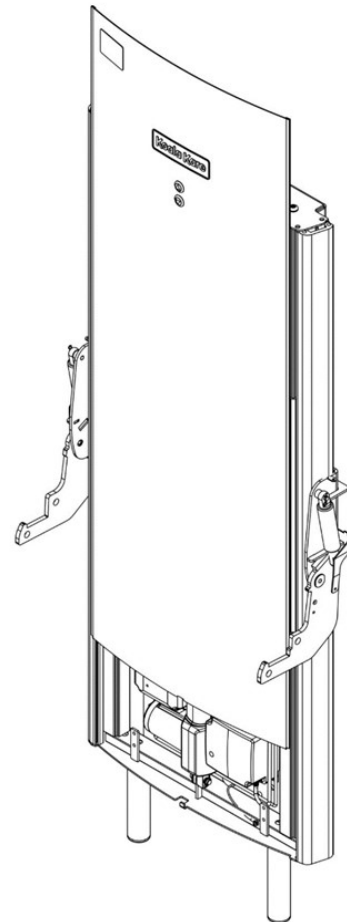

Fig 12.1e
- The front cover can now be lifted out vertically in the direction shown in Fig 12.1e, and retain. This will be refitted at the end of the installation.